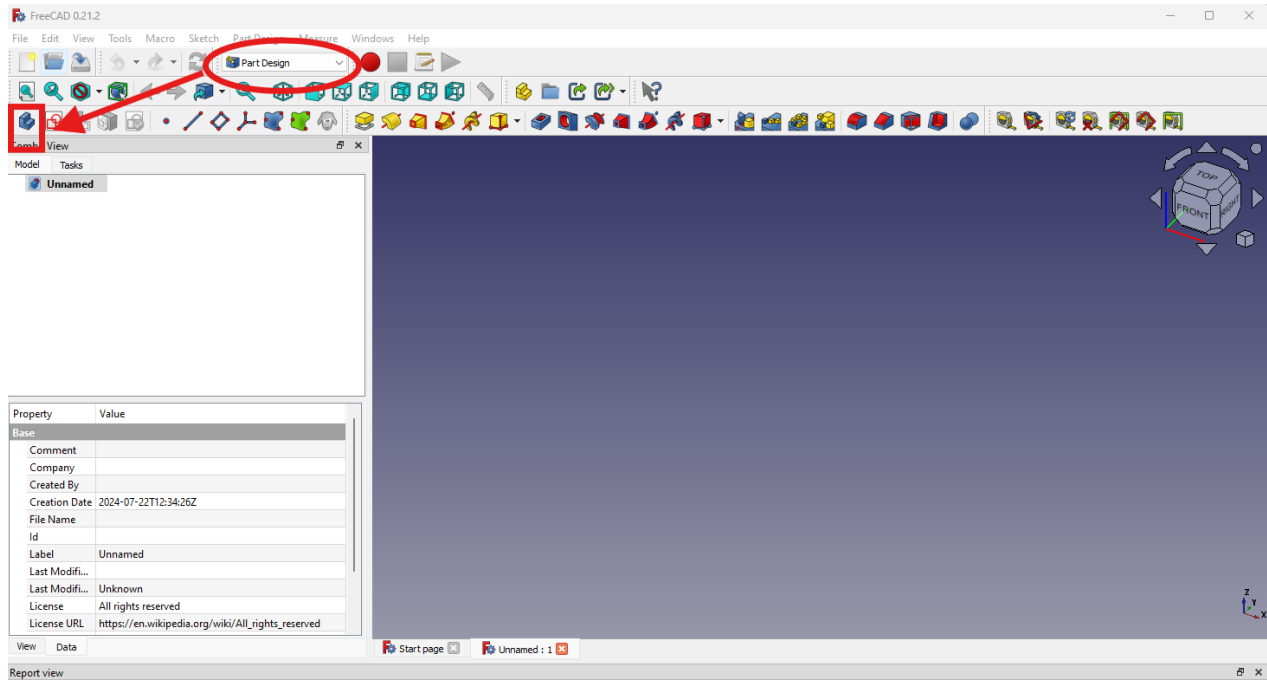

Figure 4: FreeCAD: Create a new body from the Part design workbench
- Select the **Part design** workbench from the drop-down menu and click **create body** (Figure 4).